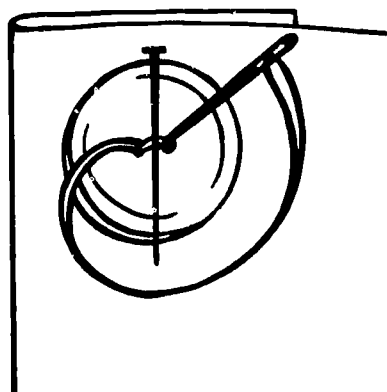

Figure 91.
3. Place a pin across the top of the button between the holes. For longer shanks use a tooth pick, match stem, or other similar object (see Figure 91).